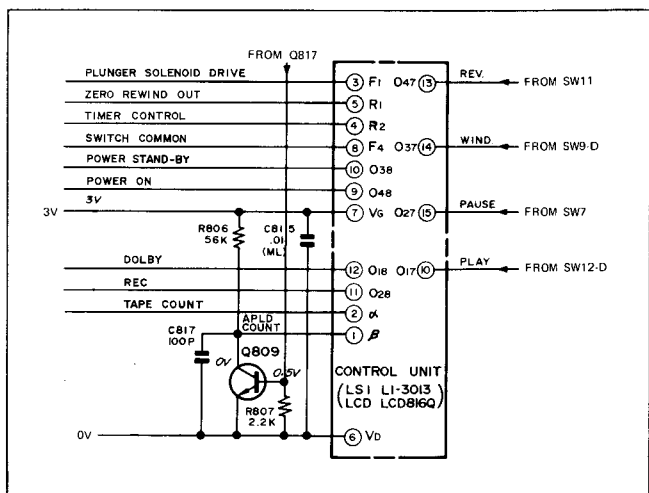
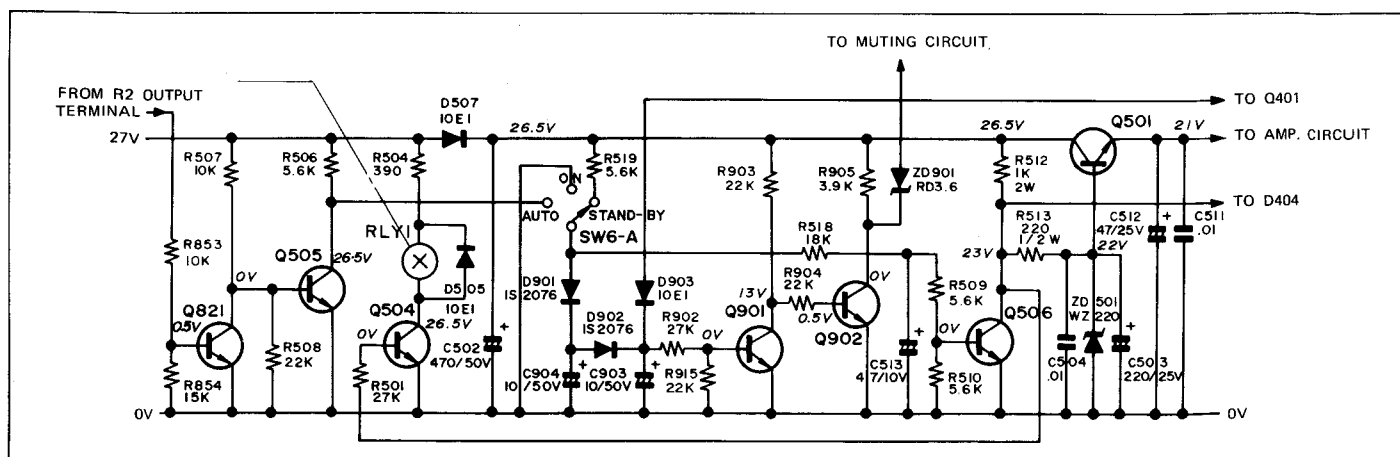

Figure 22
Figure 23
■ DECK POWER CONTROL AND RELAY DRIVE CIRCUIT (See Figures 22 and Figure 23)